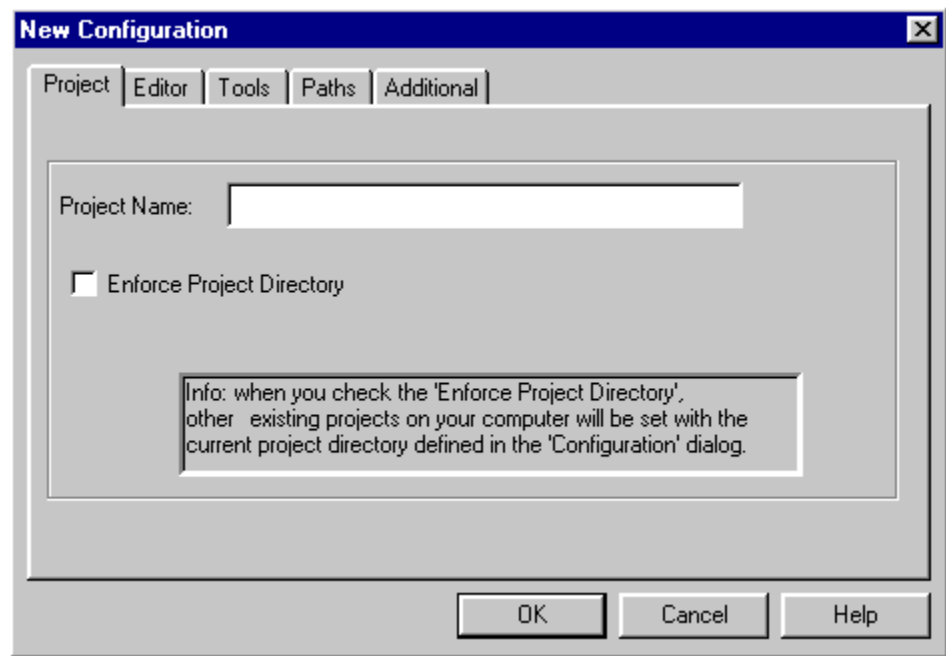

Figure 3-5. New Configuration Dialog Box
6. Set project parameters, starting with the **Project Name** as shown in Figure 3-5.
Refer to Figure 3-5 for an example of the project tab in the **Configuration** dialog box. Define the name of the project in the **Project Name** edit box. This name will be displayed in the main **Configuration** dialog box.